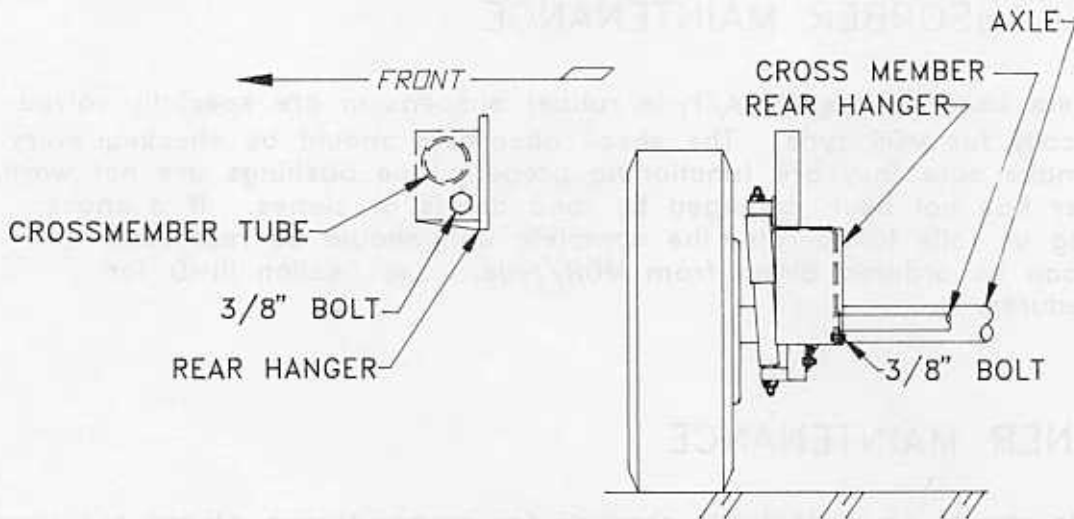

FIGURE 4: CROSSMEMBER REPLACEMENT INSTRUCTIONS
- 2.) Install new cross member. NOTE: Crossmember tube must be positioned above 3/8" bolt. Crossmember tab must be flush with end of rear hanger assembly. See Figure 4 for proper orientation of cross member.